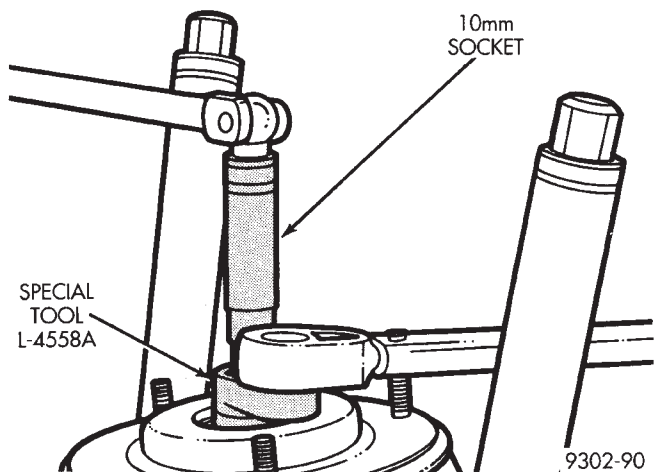

Fig. 68 Remove/Install Strut Shaft Nut
(4) Install Strut Rod Socket, Special Tool, L-4558 or L-4558A on strut shaft nut (Fig. 68). Using a 10 mm socket on end of strut shaft to keep strut shaft from turning, (Fig. 68) remove strut shaft nut.
(7) Install Strut Rod Socket, Special Tool, L-4558 or L-4558A on strut shaft nut (Fig. 68). Using a 10 mm socket on end of strut shaft to keep strut shaft from turning, (Fig. 68) tighten strut shaft nut to a torque of 94 N·m (70 ft. lbs.).
(8) Equally loosen the Spring Compressors, Special Tool C-4838 until spring is seated on upper strut mount and all tension is relieved from the spring compressors.
(9) Install the strut assembly on the vehicle. Refer to McPherson Strut in the Removal And Installation Section in this group of the service manual for the required procedure.